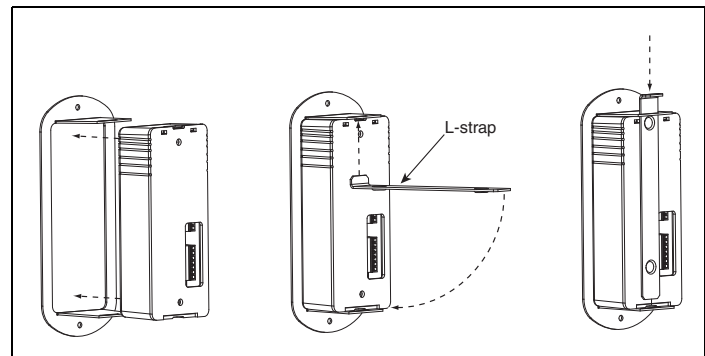

Figure 6. Attaching the Fume Hood Monitor to the recess mounting bracket.
12. Attach the monitor to the recess mounting bracket (see Figure 6 on the next page):